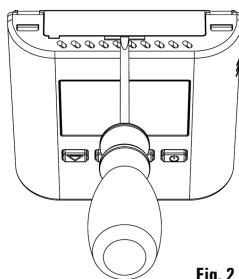

Fig. 2
- 1** Extract the battery holder drawer: insert the flat-blade of a screwdriver tip in the hole and pull up the drawer as shown in figures 2 and 3.